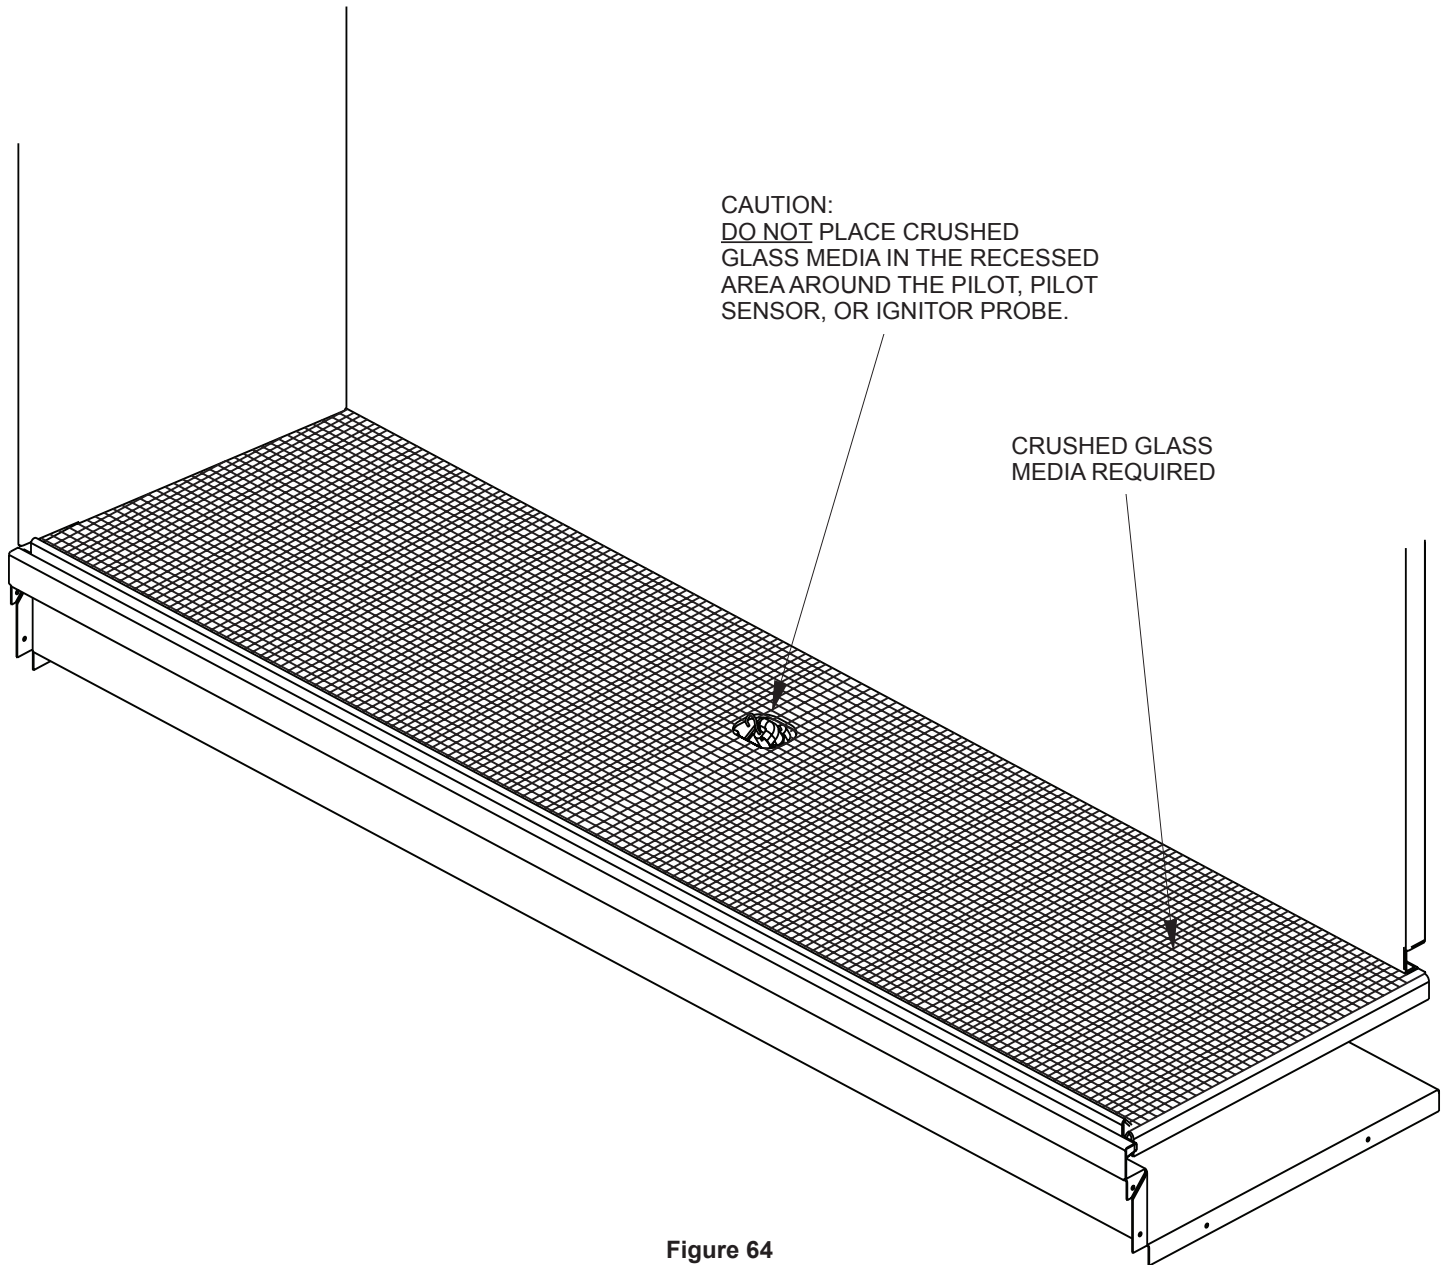

Figure 64
2. Place crushed glass media over the burner screen in a single layer. Use **ONLY** enough crushed glass media to mask the burner screen. **See Figure 64.**